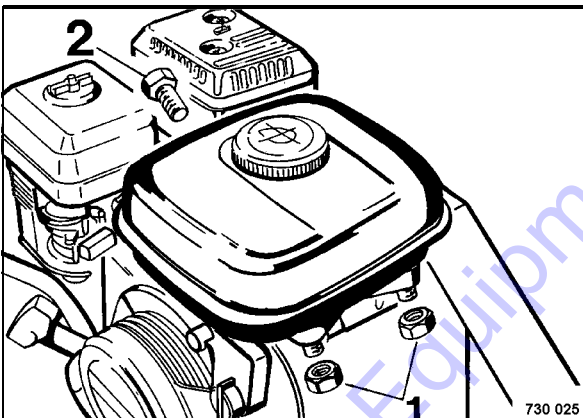

Fig. 50
- For this purpose unscrew hexagon nut 1 (Fig. 50) and hexagon screw (2).